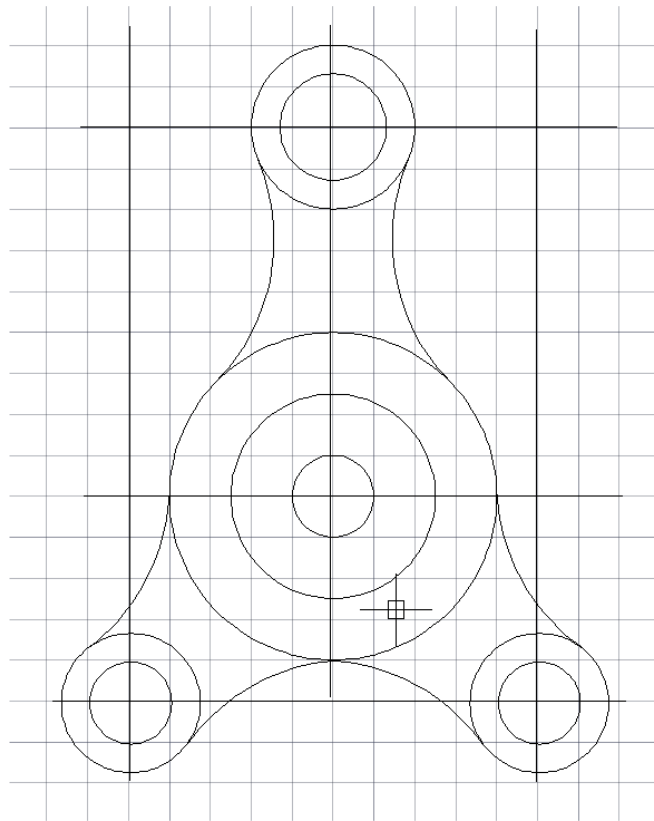

Figure 4.4 – Mirror reflection
4.2.5 Then, we will make a mirror image of the part about the construction line. For this we select the "Mirror" element from the "Editing" panel. After that, you need to select 3 constructed arcs. Next, you need to select two points on the axis of symmetry (on the auxiliary line in the center) and press "Enter", having answered "No" to the request to delete objects in the command line (figure 4.4).